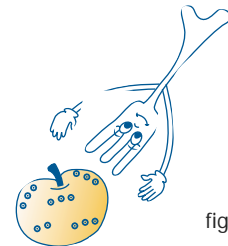

fig. 9
- 3) Food with skin, shell or peel (e.g. apples, potatoes, tomatoes, frankfurters and fish) should be **pierced in several places** prior to cooking with a fork in order to let the steam out (fig. 9).